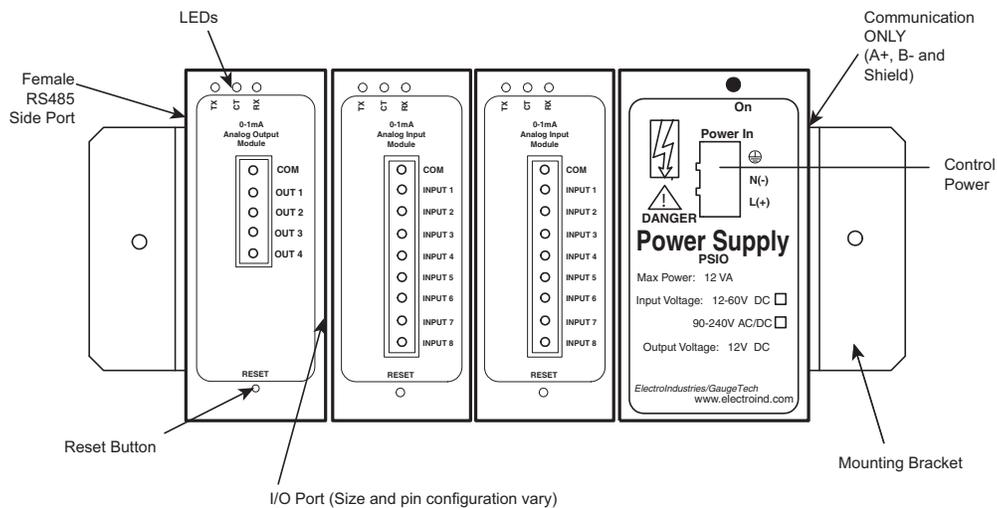

Figure 11.6: PSIO with Multiple External I/O Modules
5. Attach a PSIO (power supply) to the right of each group of I/O modules it is supplying with power (see Figure 11.6). The PSIO supplies 12VA at 125V AC/DC. See sections 11.8.6 - 11.8.8 for I/O modules power requirements.